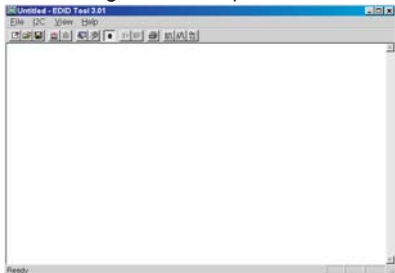

Fig. 15
1. Click  icon as shown in Fig. 15 from the tool bar to bring up the Channels "Configuration Setup" windows as shown in Fig. 12.